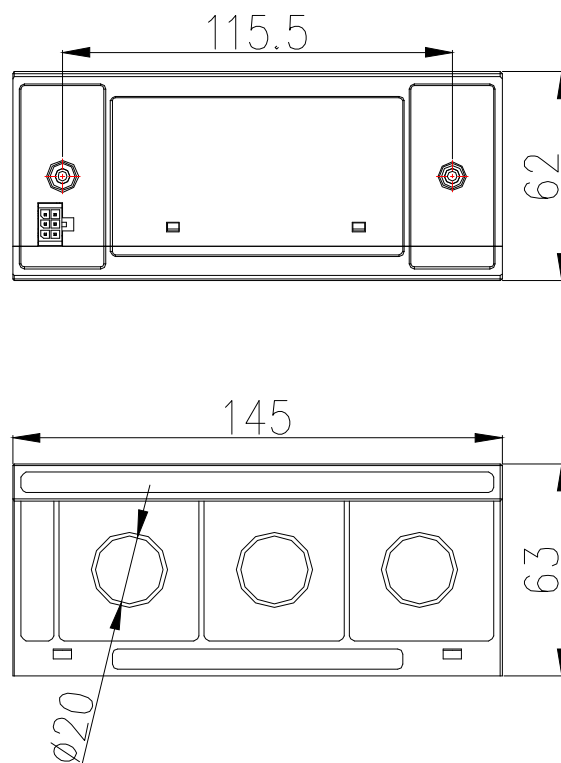

Figure 5 The external dimensions of Integrated/split current transformer(100A and below current specification)
5.3.1 The external dimensions of Integrated/split current transformer(100A and below current specification)are shown in figure 5(Unit:mm):